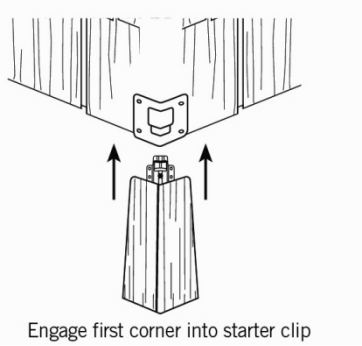

Figure 9
**STEP ONE:** Be sure the starter clip is affixed at the bottom of the wall's corner. Slide your first Cedar Pride molded corner over the siding and engage it into the starter clip (Figure 1b). Note that the top edge of the corner slides under the panel above it. The corner offers two fastening positions to choose from. For fasteners, galvanized screws are recommended. Once positioned properly, insert one fastener on each side (Figures 9 and 10).